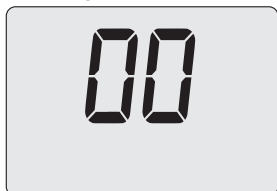

Fig. 8.43
- By using buttons 13 or 14 (Fig. 8.31) it is possible to modify the value of parameter A01 (Fig. 8.43).